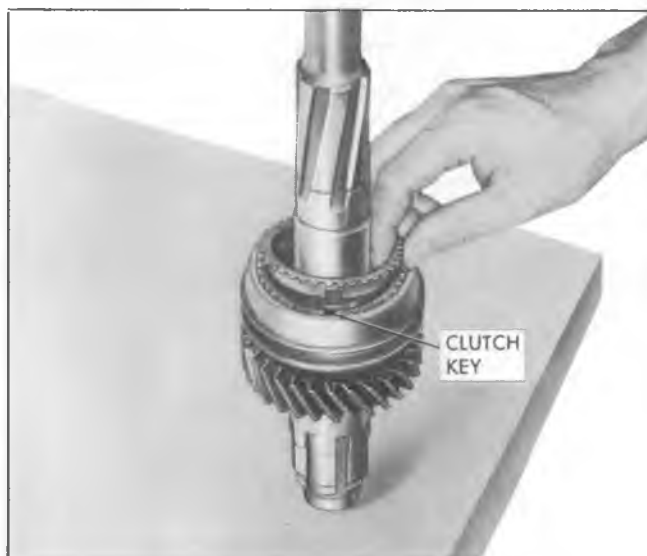

Fig. 12B—Installing Synchronizing Ring
2. Install 1-2 synchronizer clutch assembly to mainshaft (sliding clutch sleeve taper toward the rear, hub to the front); together with a synchronizing ring on either side of clutch assembly so their keyways line up with the clutch keys (fig. 12B).